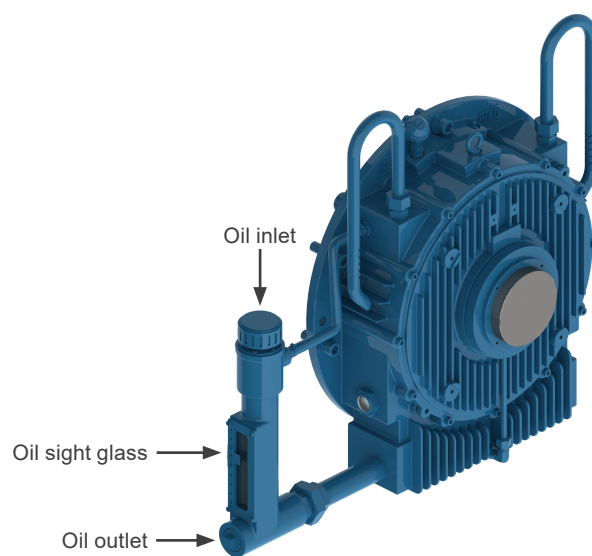

Figure 8.2: Oil lubricated bearing - horizontal mounting
- Drain the oil through the drain hole located at the bottom of the bearing (see Figure 8.2 on page 73).